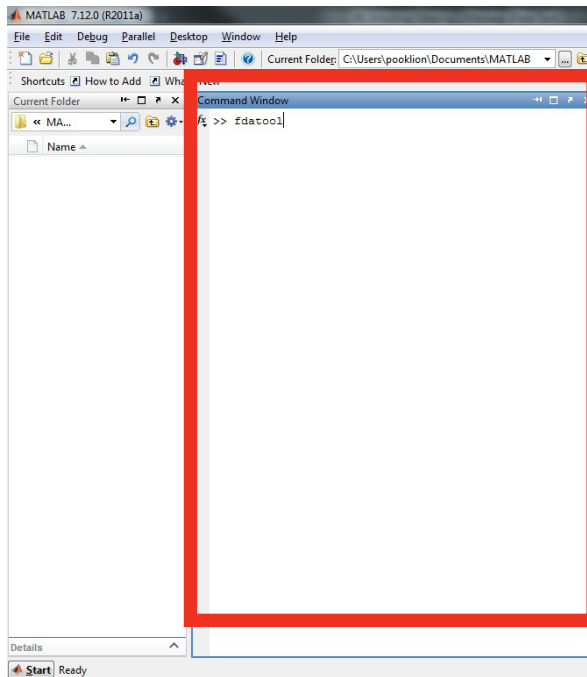

Figure 1. MATLAB command window
1. Start MATLAB program (Figure 1)